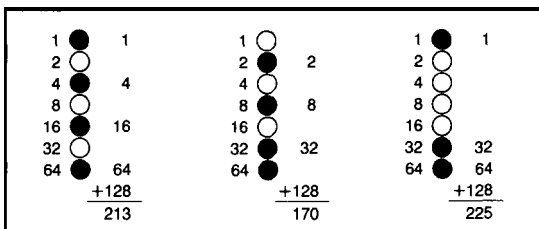

Figure 4-2. Calculating numbers for pin patterns
By adding the pin numbers together, you can fire any combination of pins you want. Figure 4-2 shows you three examples of how to calculate the number that will fire a particular pattern of pins.
Lines 30 and 50 set up a loop so that the pin number is sent 40 times. Line 40 contains the pin number (213) that is sent to the printer 40 times. In Figure 4-2 you can see the pattern that this number produces. Again be sure that you have typed in the semicolon in this line so that all 40 repetitions of the pin number will be on the same print line. Line 60 closes the file, as usual.